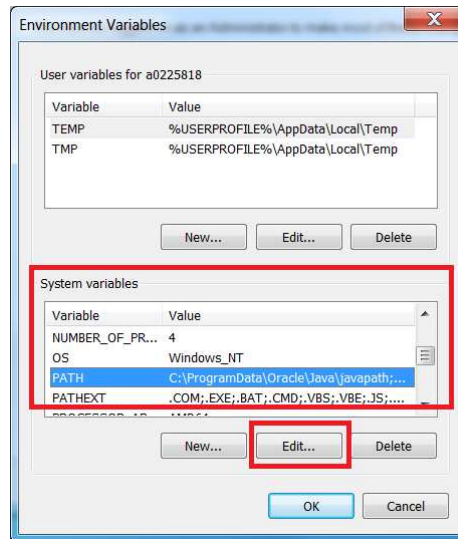

Figure 13. Edit PATH Environment Variable
- In the system variables field, browse to the entry labeled “Path” or “PATH.” Highlight the entry and click “Edit” as shown in Figure 13.